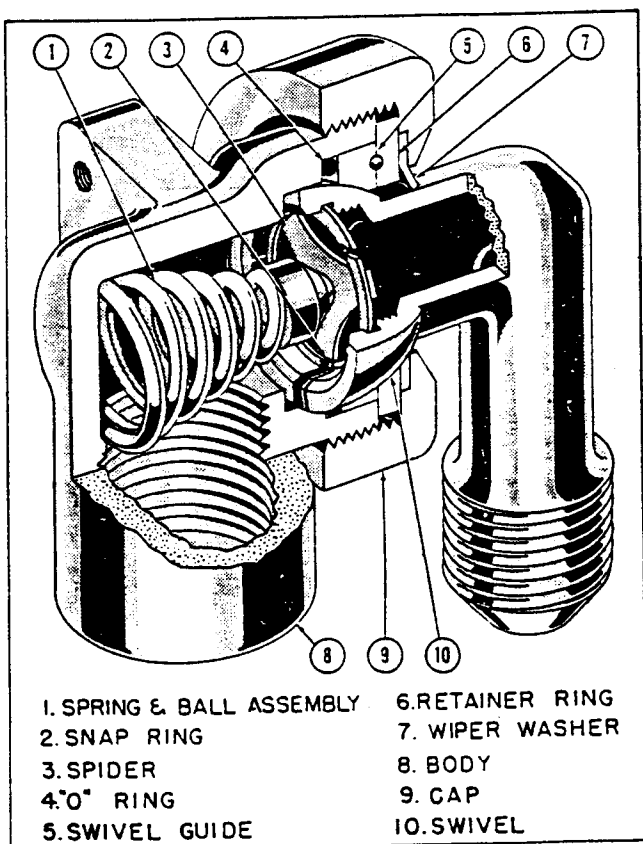

Figure 10. Flexible Swivel Joint
(2) FLEXIBLE SWIVEL JOINT (Barco SK2219 and SK2220) (See figure 10).
(b) REMOVAL AND DISASSEMBLY.- The units are easily removed by disconnecting the hydraulic lines. Refer to figure 10 for disassembly.
(d) ASSEMBLY AND INSTALLATION.- Refer to figure 10 for assembly. When installing the unit, make certain that tubing is the correct length and that the flexible joint is not thrown out of alignment just to make a fit. Also, when tightening the hydraulic fittings, hold the joint securely to prevent twisting the unit out of alignment. After the unit is installed, bleed the system.